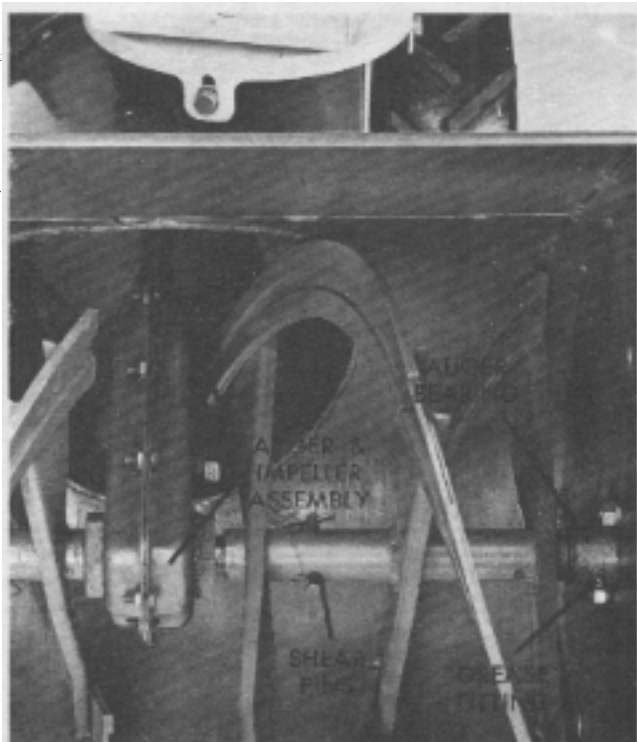

Fig. 3
- A. Auger Bearing Support — Two fittings, one on each end of auger shaft (Fig. 3). Grease until the grease comes out of bearings. Wipe off excess grease. Grease with pressure type gun.
6. Remove auger bearing from both ends of auger shaft (Fig. 3).
7. Pull out entire auger and impeller assembly (Fig. 3).